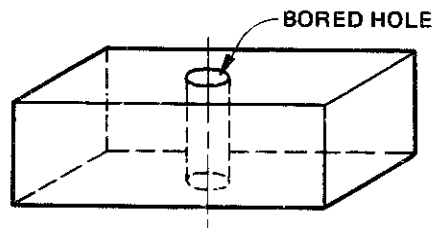

Fig. 10-60
1. On the sketch in figure 10-60, a vertical hole has been bored before making an angle gauge. Show how to lay out the saw cut to make a gauge to bore holes at a 60-degree angle with the surface of the wood.